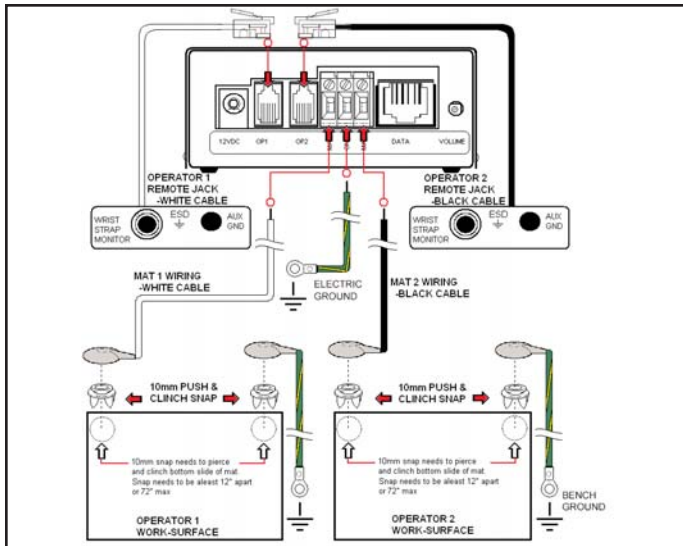

Figure 3. Mat Grounding
E. If not already done, attach the work surface to workstation common point ground using the pictured ground wires. For mats, attach the grounding point snaps at the ends of the ground monitor cords to the grounding point snaps on the work surface. These ground monitor cords are used for sensing whether or not the unit is properly grounded. Refer to figure 3 for snap-plate fitting diagram and for laminates or other hard surfaces with a buried conductive layer.